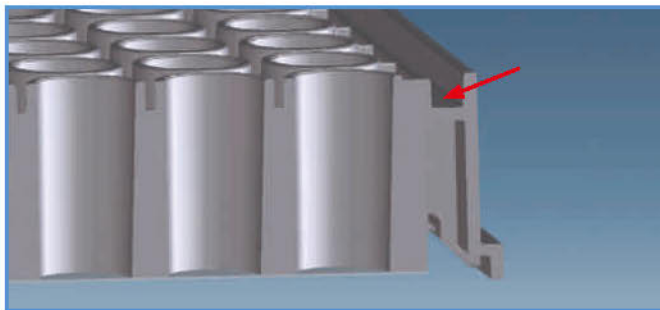

Figure 3: Detail of the 96 well SCREENSTAR microplate demonstrating the perimeter ditch which can be filled with sterile water or media
- Ditch at the perimeter can be filled with fluids to minimise edge effects and evaporation (Fig. 3)